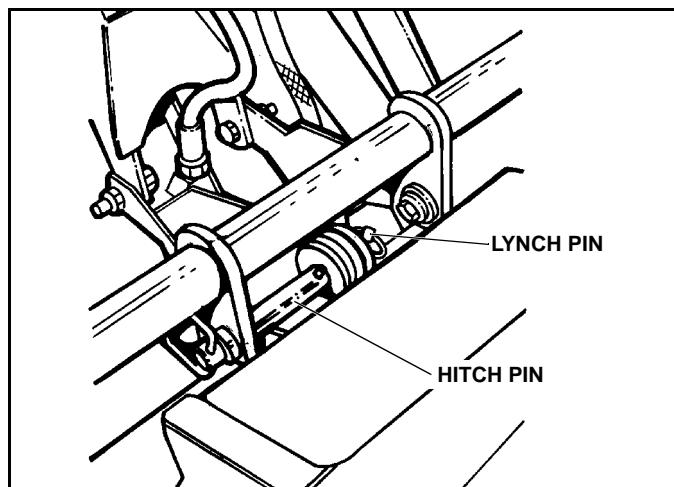

Figure 1-7
8. Pull the Lynch Pin from the upper (center) Hitch Pin and slide Hitch Pin out to disconnect the Lift Arm and Light Bar from the upper (center) hitch point of the Subframe. (See Figure 1-7)